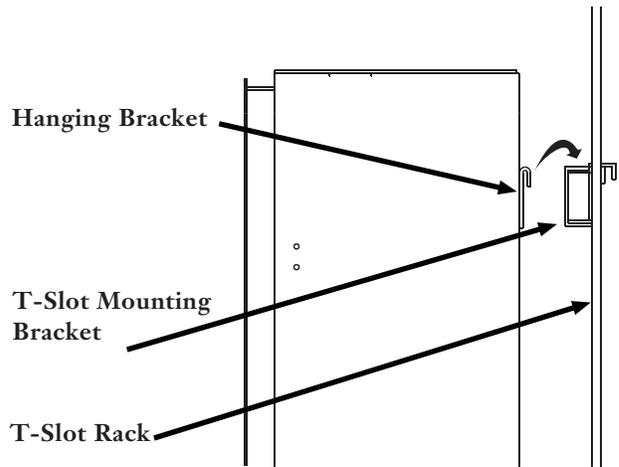

Figure 4
5.3 Hang unit onto T-slot mounting brackets as shown in Figure 4. If required, remove pass-through panels before mounting unit.